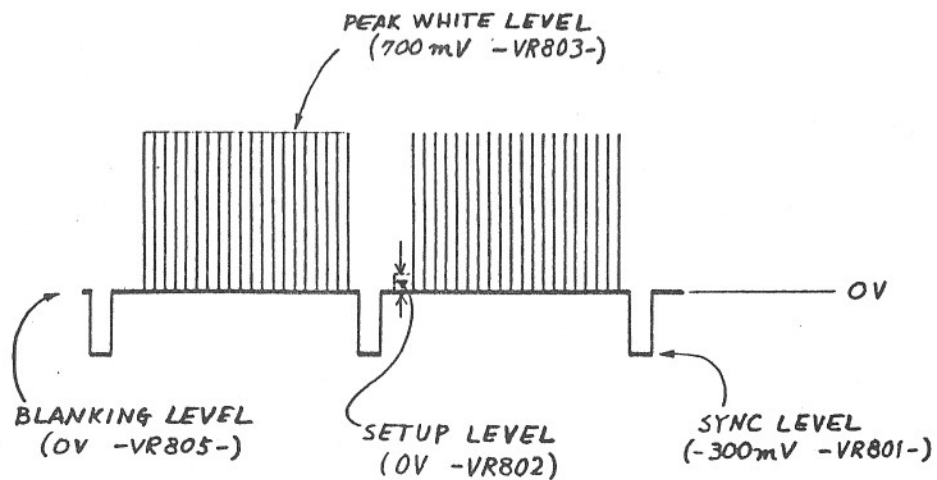

Figure-1
- c) Adjust VR801, 802, 803 and 805 to obtain a waveform as shown in Figure-1.